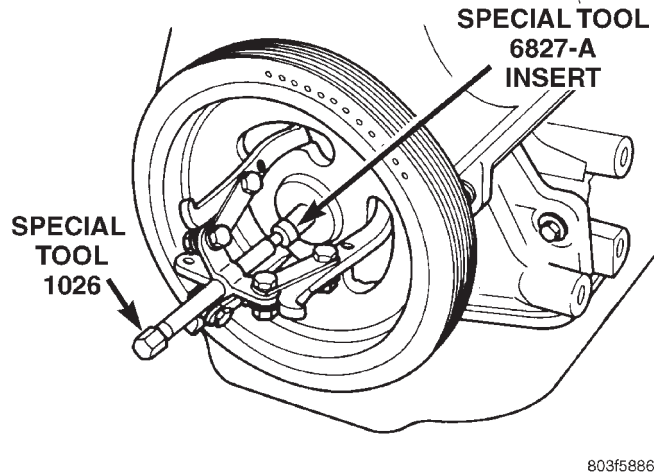

Fig. 52 Crankshaft Damper—Removal
(3) Remove crankshaft damper bolt. Remove damper using the large side of Special Tool 1026 and insert 6827-A (Fig. 52).